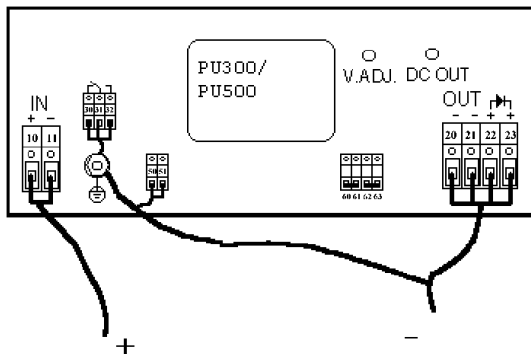

Figure 8. Input to output and input to case isolation voltage test.
4. Connect your isolation tester between input and case. See *Figure 8*. Raise the voltage of the isolation tester from 0V to corresponding value in *Table 2*. Check that the leakage current does not exceed 5 $\mu$ A. The voltage should not be applied for more than a few seconds or the Y-capacitors might be damaged.
2. Connect the output terminals of the converter to case. See *Figure 8*.
4. Connect your isolation tester between input and case. See *Figure 8*. Raise the voltage of the isolation tester from 0V to the corresponding value in *Table 2*. The voltage should not be applied for more than one (1) minute or the Y-capacitors might be damaged.